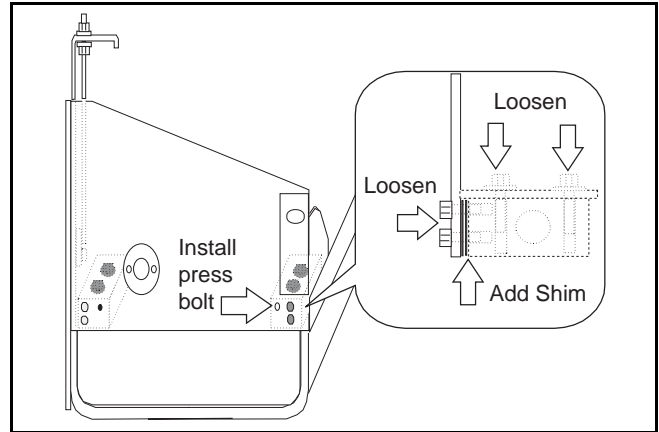

Figure 24 Shim Tipping Frame
- 5) Tighten the keeper bolts and remove press bolt. (Figure 24)